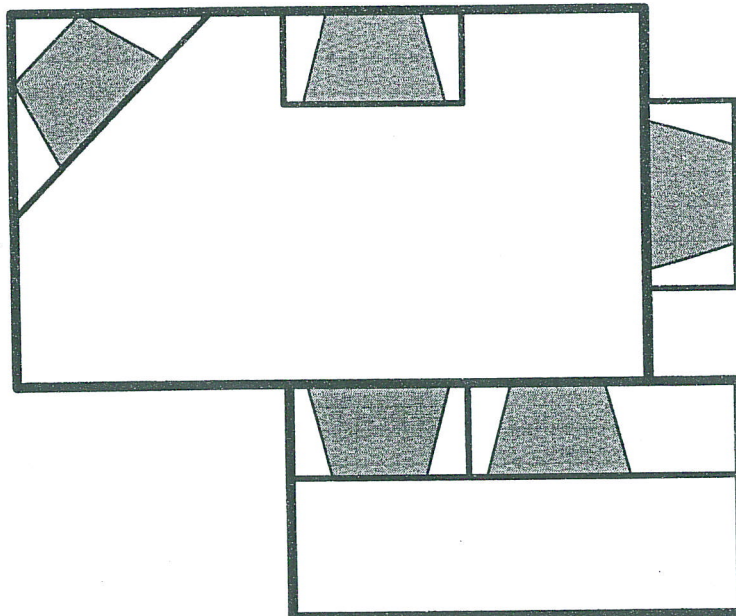

Figure 8
- Minimize modifications to existing construction. *Refer to Figure 8* below for location suggestions.